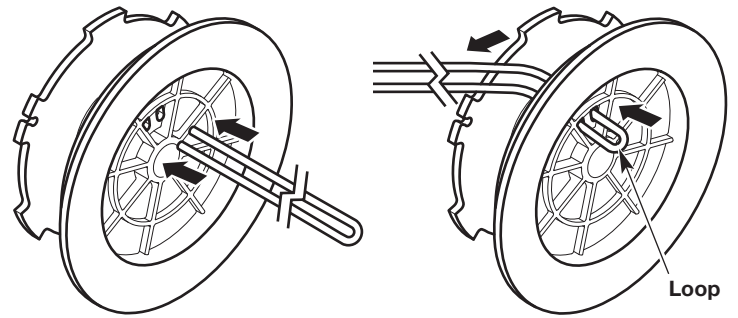

Fig. 30
2. Insert the two line ends through the two holes in the inner reel (Fig. 30). Pull the line through the inner reel so that the loop is as small as possible (Fig. 30). Make sure the line ends are of equal length.